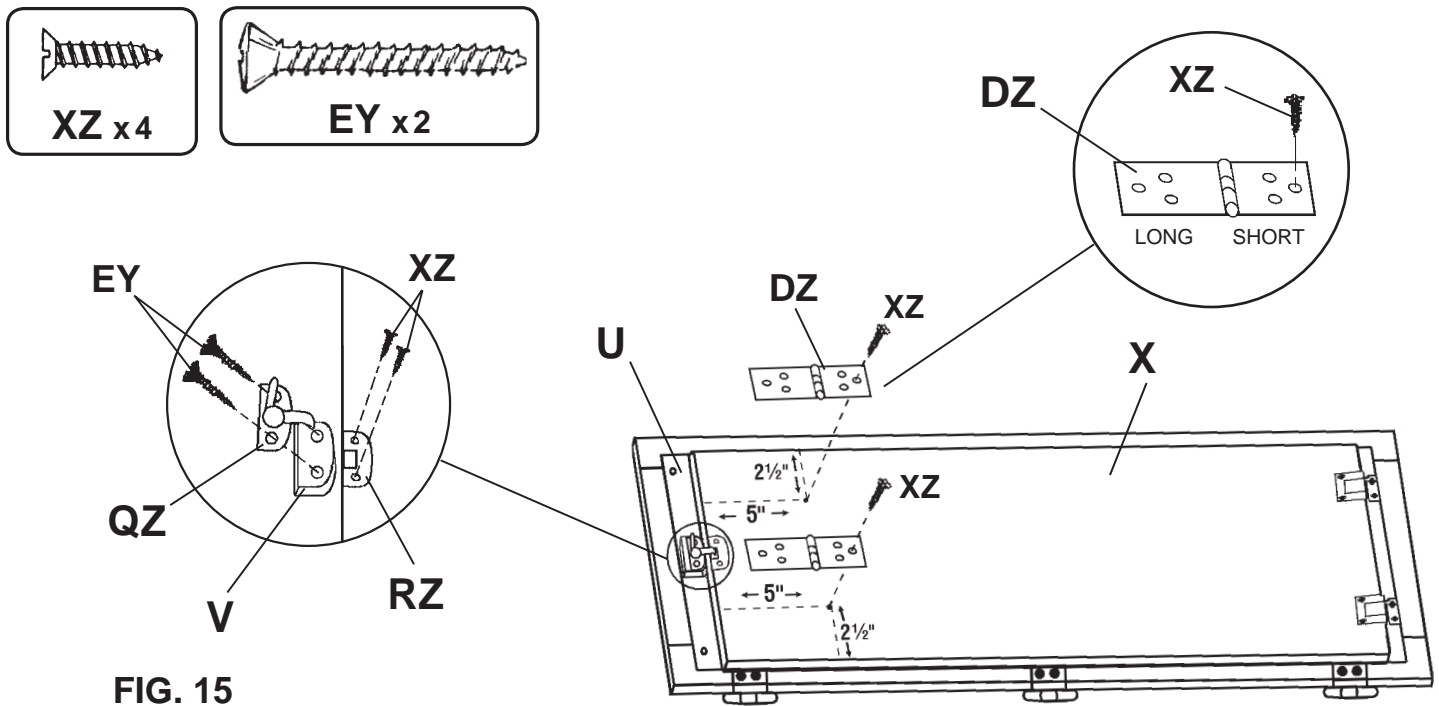

FIG. 15
- 15) Insert #10x1½" Antique Brass Oval Head Screws (EY) through the Table Lock Lever (QZ) and Latch Support (V) and attach to Table Support (U), centered side to side and about 1/8" from edge of Table Top (X). With the Lock Lever (QZ) in the closed position, slide the Table Lock Plate (RZ) into position under the lever and fasten with #5x5/8" Brass Flat Head Screws (XZ).
Measure down 5" from end of Table Top (X) and 2½" in from both sides and make a mark. Place outermost hole in shorter flap of Table Leg Hinge (DZ) over these marks and insert a #5x5/8" Brass Flat Head Screw (XZ) in the hole. See FIGURE 15. **DO NOT INSERT ALL THREE SCREWS IN EACH HINGE NOW.**